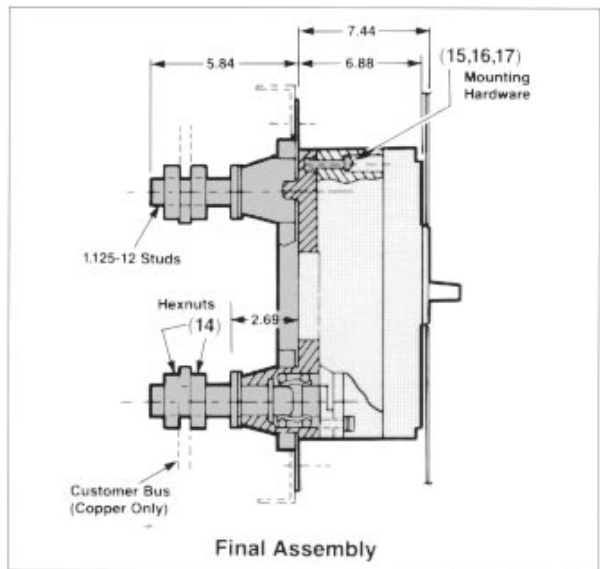

Figure 5
Final Assembly (Figure 5)
- Make bus-connection to mounting block studs. Use Only Copper Bus Bars. Use hex nuts (14) furnished to secure this connection. Tighten to 2400 in.-lb. (Figure 5).
- Align breaker with mounting blocks and force female tulip clips over male studs in mounting block until breaker base bottoms against mounting block. Secure breaker in place with 3/8-16 x 1-1/2 in. mounting screws (15), lockwashers (16), and flatwashers (17) furnished. Tighten to 216 in.-lb.
- Replace breaker terminal shields (7) and secure with four breaker terminal shield screws (6). Tighten to 12 in.-lb.